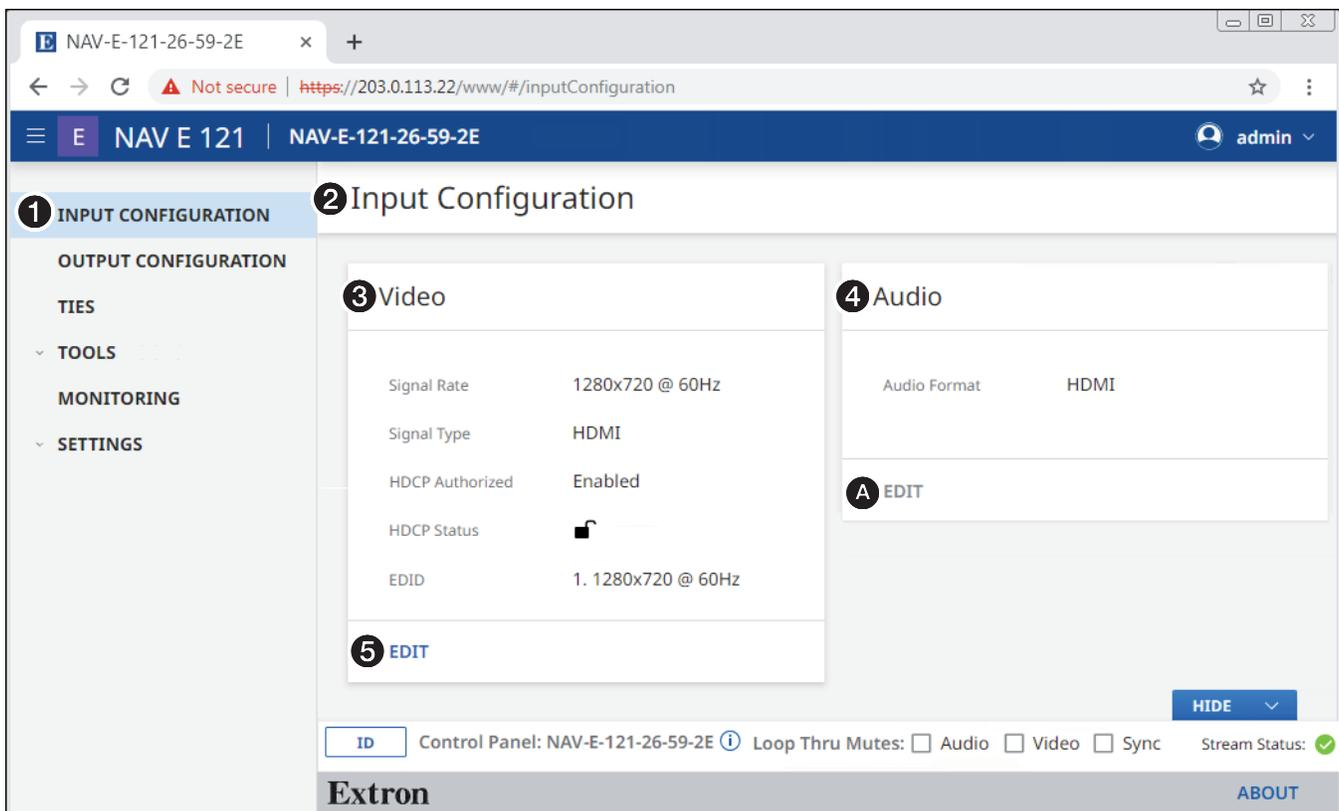

Figure 13. Input Configuration Page
Access the **Input Configuration** page (see figure 13) by clicking the link on the left side of the browser (①). The browser displays the **Input Configuration** panel (②).